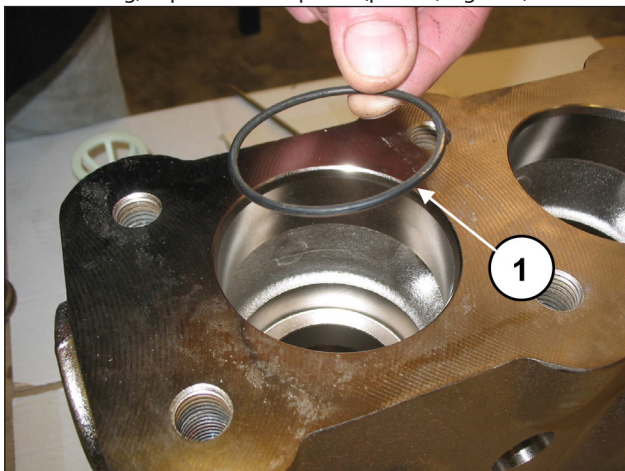

Fig. 118
Fit the O-ring, exploded view pos. 6 (pos. ①, Fig. 118).